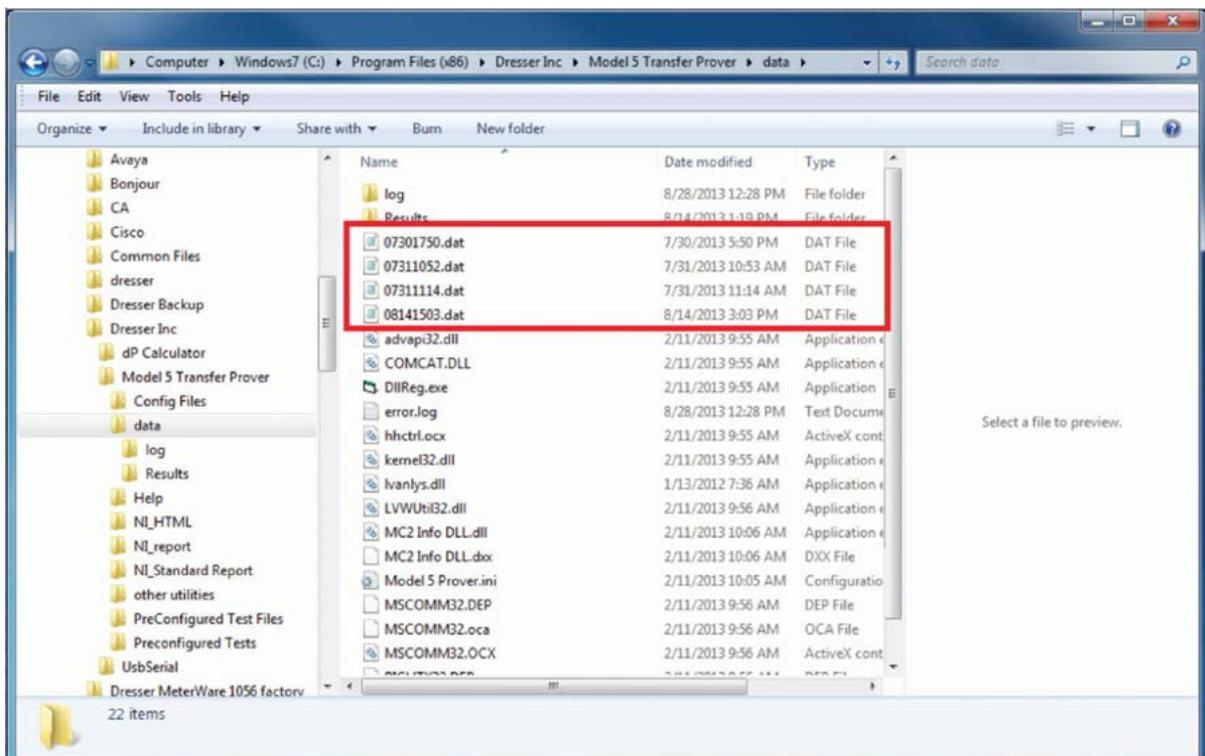

Figure 5: Find Saved Test Files
5. This folder contains the test data. Search for them by file name. The files are saved as .dat files. Please note, default naming convention follows a time stamp convention of Month, Date and ID. (MMDDXXXX). Refer to **Figure 5** for an example.